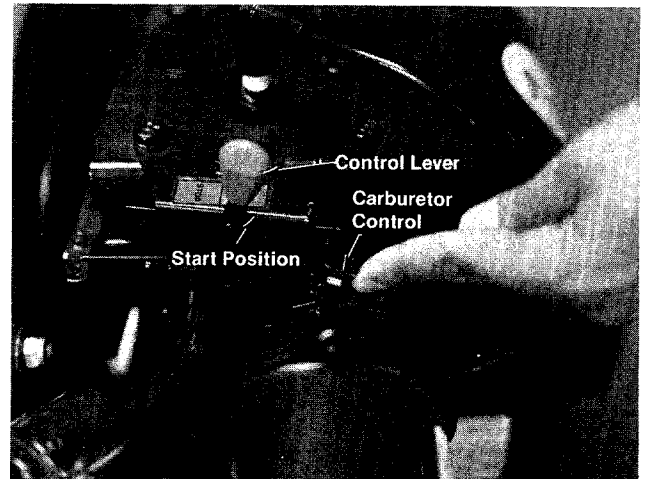

FIGURE 7.
1. Place control lever (on engine) in START position. See figure 7.
2. Move carburetor control to CHOKE position. See figure 7.